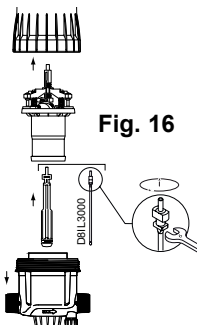

Fig. 16
- Remove the motor piston (Fig. 16) by pulling it up.